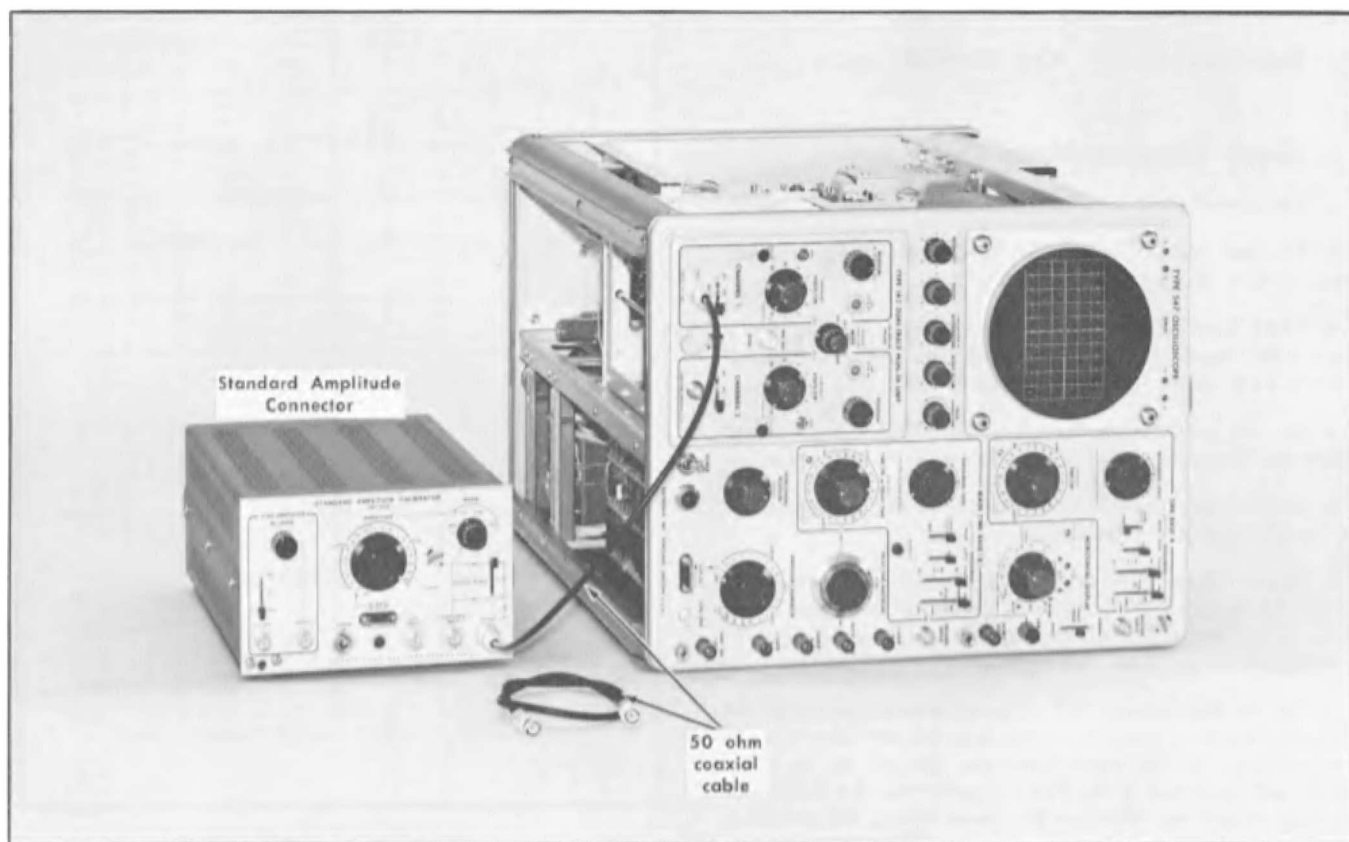

Fig. 7-8. Initial equipment setup for steps 17 and 18.
- Equipment setup is shown in Fig. 7-8